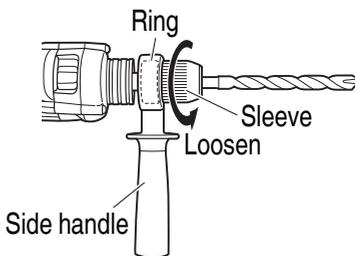

Fig. 4
- (2) Firmly grasp the ring and turn the sleeve in the clockwise direction. Tighten securely.
- (3) To remove the bit, firmly grasp the ring and turn the sleeve in the counterclockwise direction.
- (4) When the sleeve does not become loose any further, fix the side handle to retaining ring, hold side handle firmly, then turn the sleeve to loosen by hand. (Fig. 4)